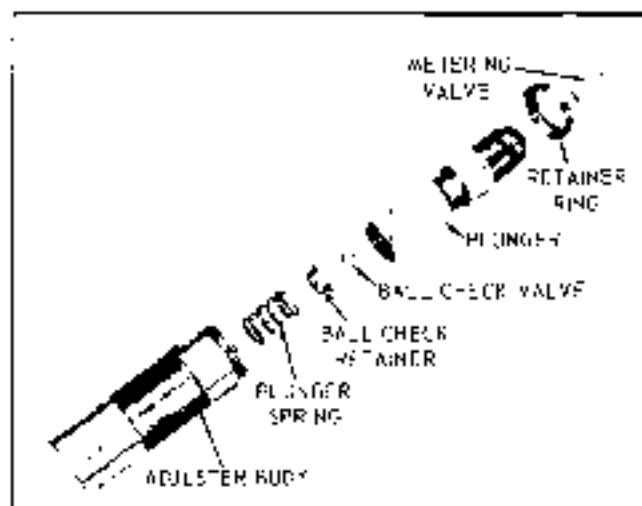

Fig. 6-20 Lash Adjuster—Exploded View
2. Fill the vent hole adjacent to the filler with engine oil (see Fig. 6-20).
LASH ADJUSTER—DISASSEMBLY (Fig. 6-20)
LASH ADJUSTER—ASSEMBLE (Fig. 6-20)
Figure 6-20 shows the relative position of component parts of lash adjusters. The recommended procedure for assembly is given in the following steps.